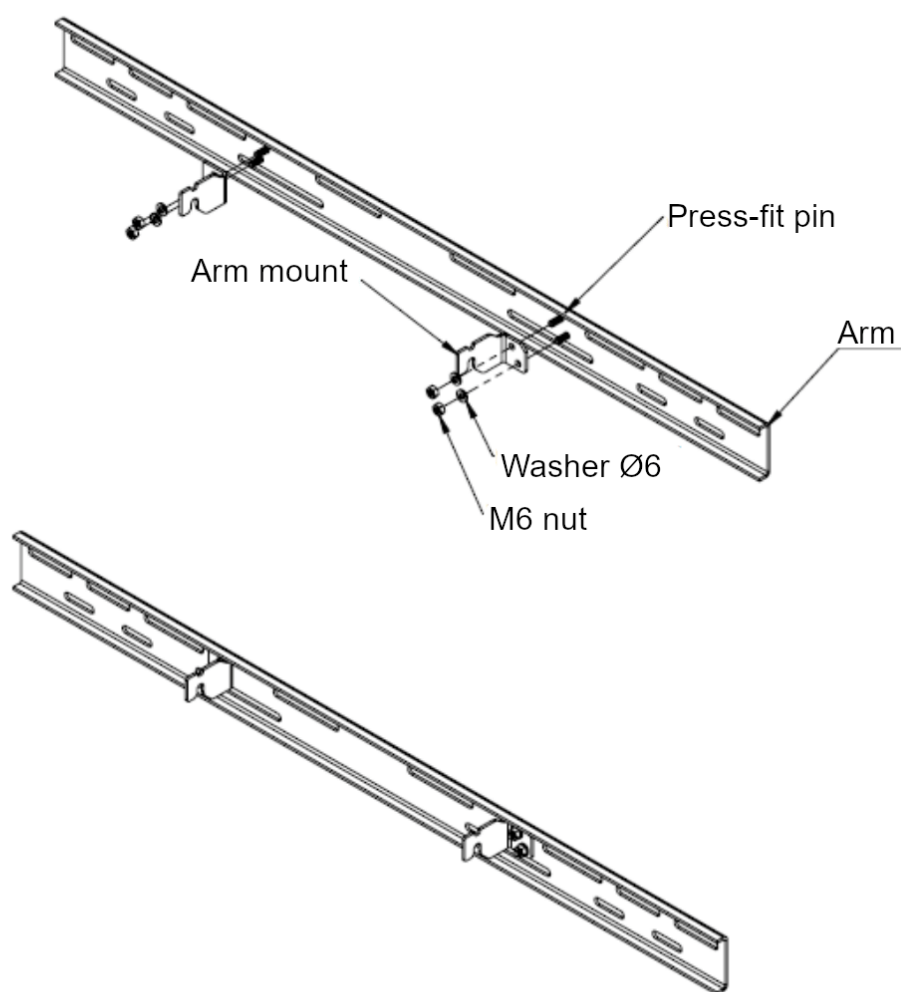

Fig.1
1. Screw the arm mount to the beam as shown in Fig. 1. Perform this operation with both beams in the same way.